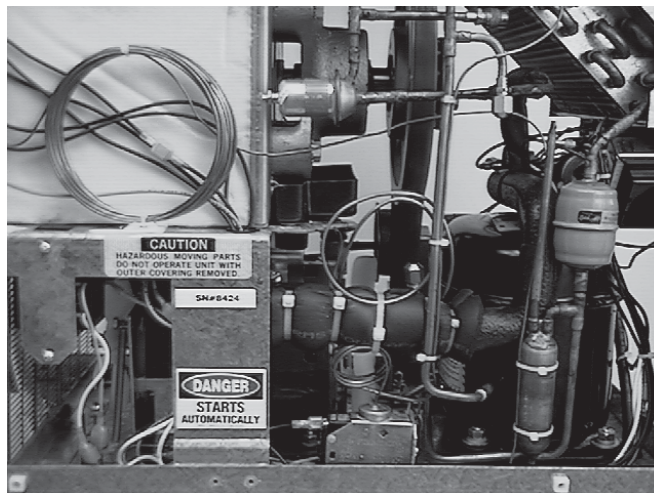

Figure 26. Drier Cap. Tube Assembly
3. Unsweat capillary tube dryer assembly at the dryer inlet and at the hopper inlet located at the side of the hopper. Figure 26.